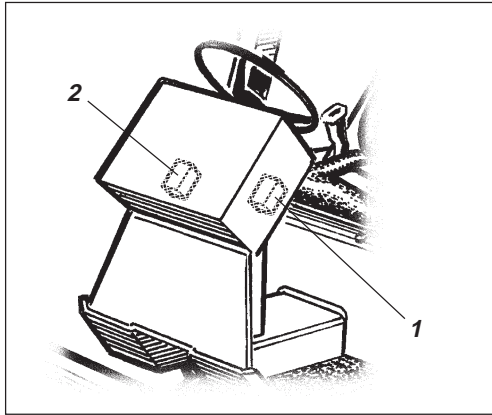
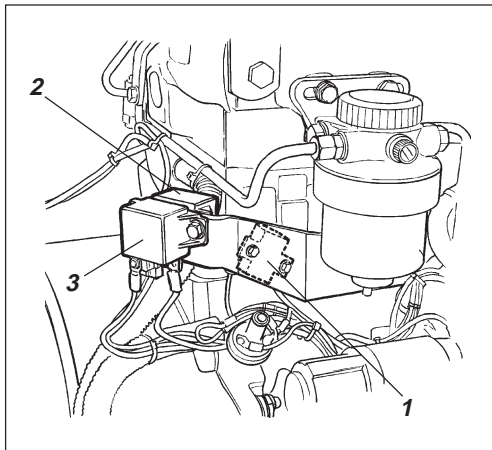

Fig. 31 Steering column
Fig. 32 Engine compartment
The electrical regulating and control system is protected by 2 fuses, 15A (1), fig. 31, and 30A (1), see fig. 32 below.